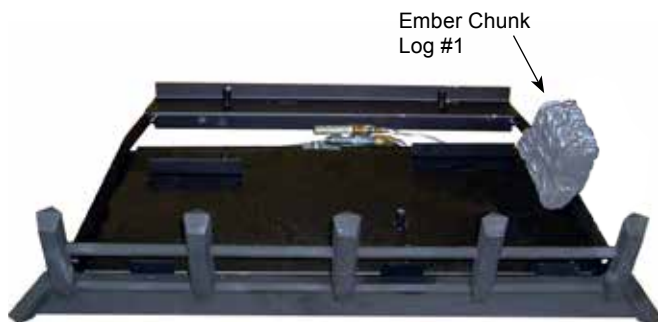

Figure 26 - Place Ember Chunk Log #1
1. Place the #1 log (the "chunk") on the grate bar right side of the burner adjacent to the controls. *Figure 26*